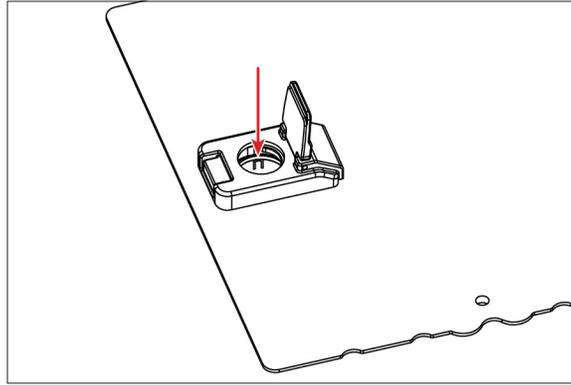

Fig. 4
4. Insert a straightblade screwdriver between the snap feature and the wall of the plastic housing (Fig. 4). Disengage the snap feature while pulling down on the free edge of the air bearing to release the bushing from the AirShuttle. If one snap feature is disengaged and the bushing is not released, maintain downward force on the air bearing and release a second snap feature.